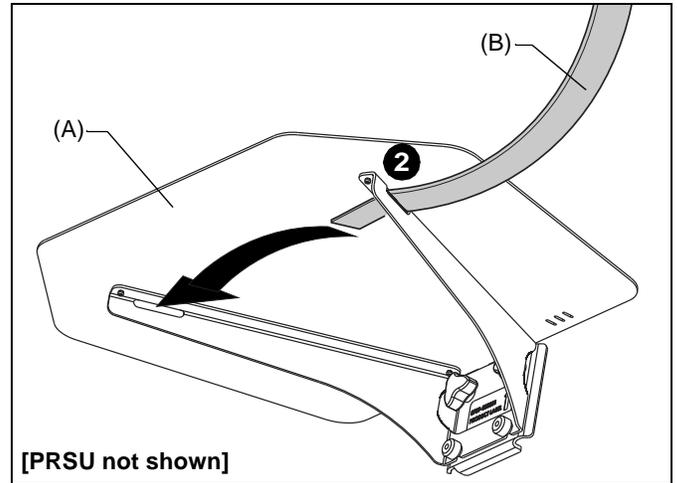

Figure 6
1. Place equipment on shelf (A).
2. Thread strap (B) through slots on underside of shelf (A). (See Figure 6)